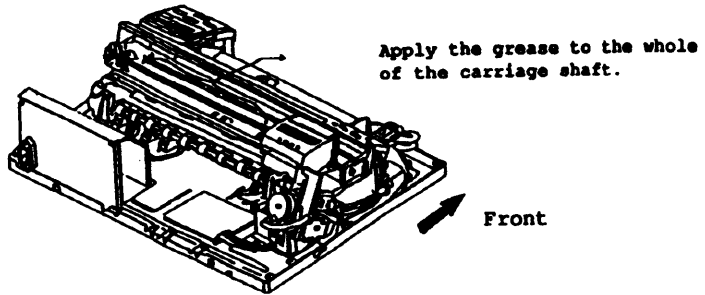

Figure 6
9. Move the carriage to the right end, then apply a quarter of the grease (approx. 100 mg) to the whole of the carriage shaft, while taking the end of it and rotating it. (Figure 6)